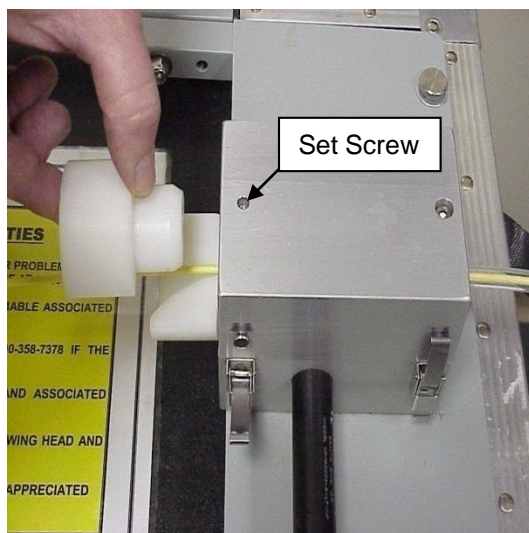

Figure 48
13.7.1 To adjust, use a 1/16" Allen wrench (Installer provided) and turn set screw clockwise (CW) to increase or counter-clockwise (CCW) to decrease plunger tension on Fiber Guide dies. **See Fig. 48.**